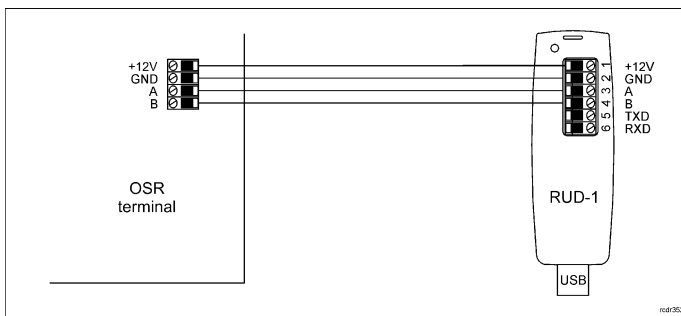

Fig. 1 Connection of OSR terminal to RUD-1 interface
1. Connect the device to RUD-1 interface (fig. 1) and connect the RUD-1 to computer's USB port.
The firmware of device can be changed to newer or older version. The update requires connection to computer with RUD-1 interface (fig. 1) and starting RogerVDM software. The latest firmware file is available at [www.roger.pl](http://www.roger.pl).